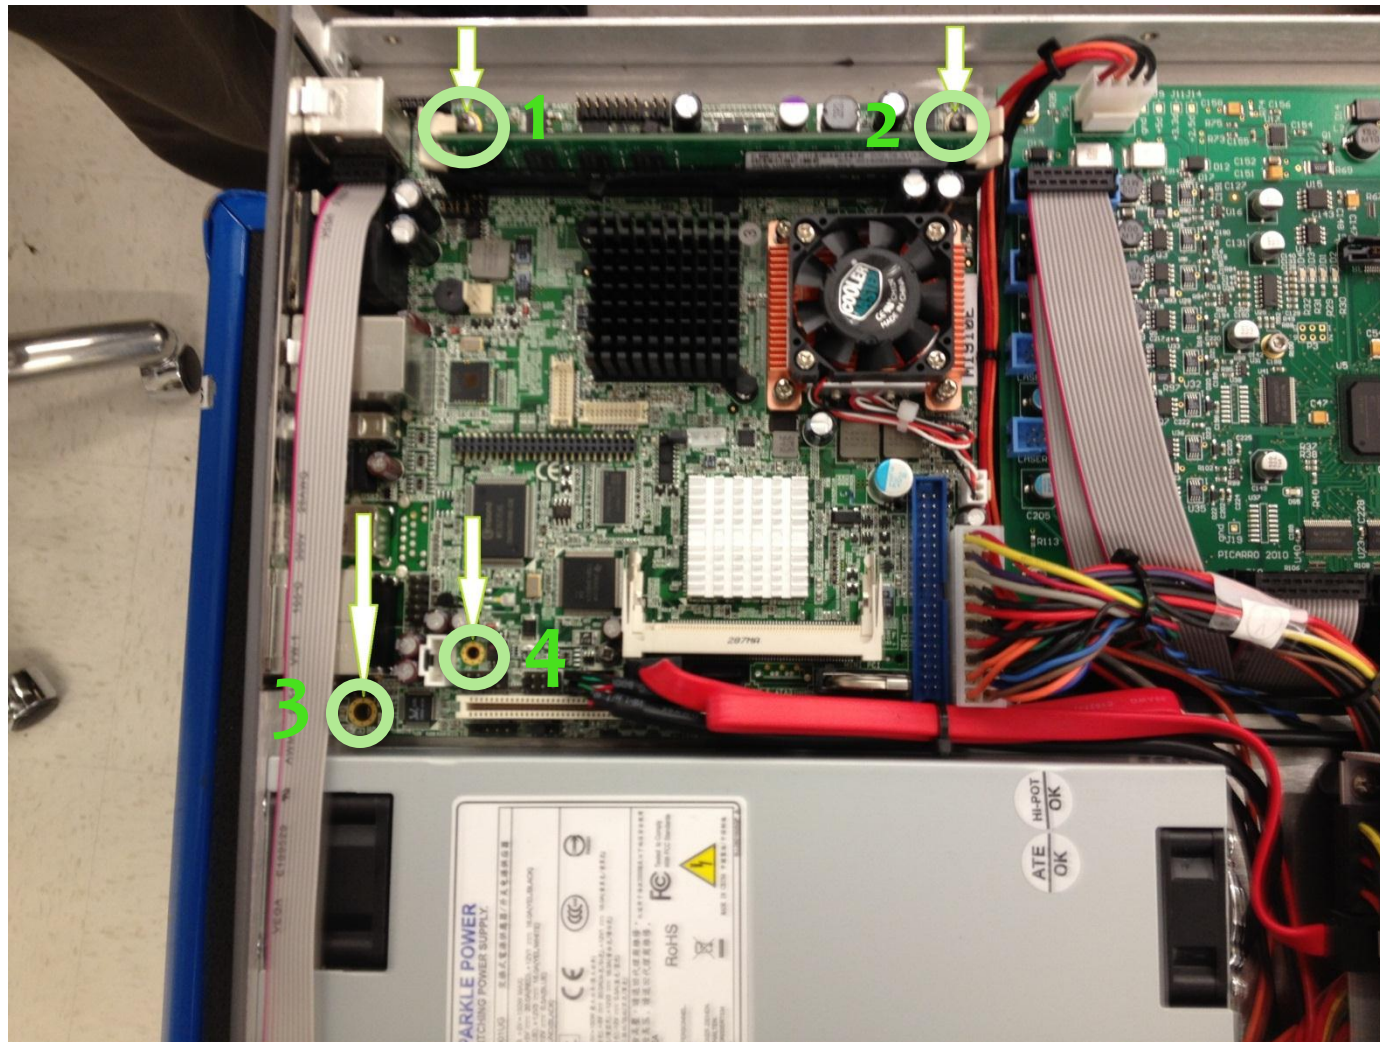

FIGURE 14: PCB Screw locations (x4)
8. Remove 4 screws (see Figure 14) that hold the PCB to the analyzer housing in the order shown in Figure 14. Initially loosen all 4 screws, then it's easier to remove the screws from the board level by retrieving them with forceps or needle nose pliers. Careful not to damage the board, and remember always to be grounded with a wrist strap.